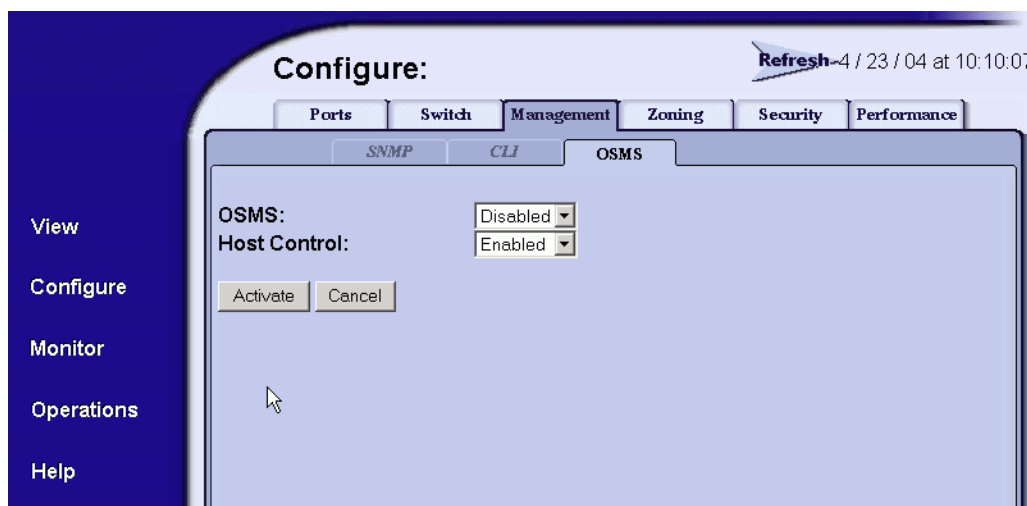

Figure 2-17 Configure Panel (Management Page with OSMS Tab)
1. At the *Configure* panel, click the *OSMS* tab. The *Management* page displays with the *OSMS* tab selected (Figure 2-17).